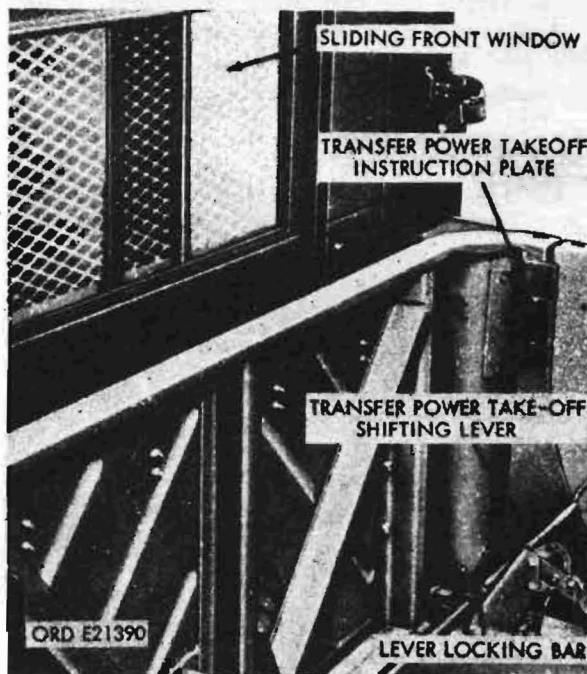

Figure 144. Sliding front window
a. V-17A/MTQ Body. The V-17A/MTQ body (fig. 25) is especially constructed for telephone construction and maintenance work. The steel body is semi-inclosed having partially open top and an open rear end. Top opening is covered by a canvas. There are six compartments on right-hand side of body with a seventh on the left-hand side. All compartment doors are hinged and have slam-type locks with pull latches. Compartments are used to store small tools, equipment, and necessary parts. Shelves are provided inside body for large equipment, tools, and material. Also, inside body are locker and rubber goods compartments. A sliding front window (fig. 144) serves for communication purposes between interior of body and cab of vehicle.